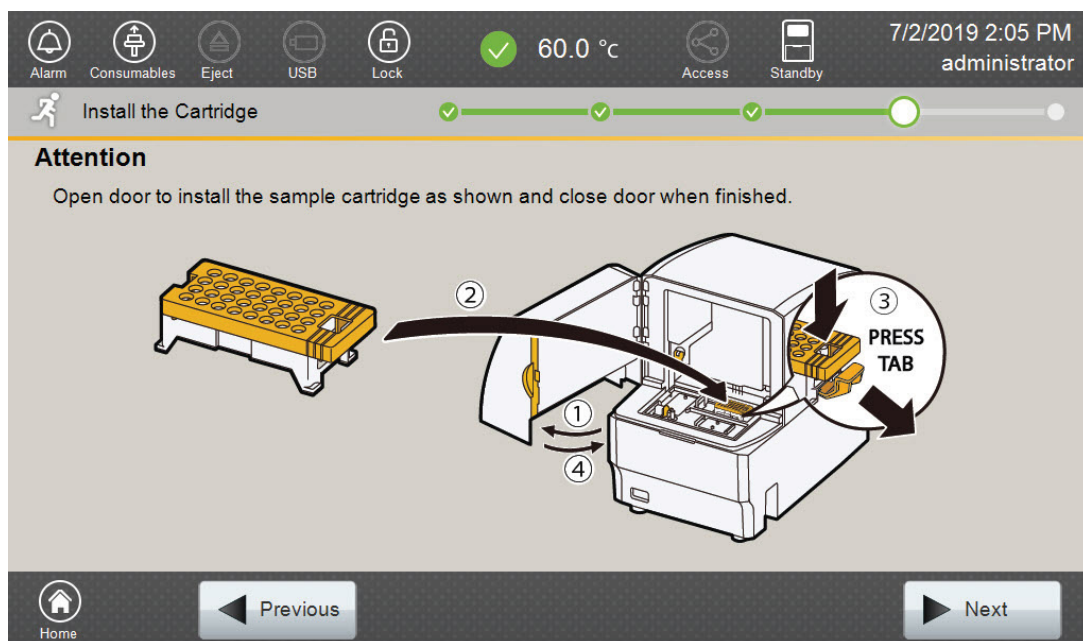

Figure 20. 'Install the Cartridge' screen.
2. Open the instrument door, then place the sample cartridge on the autosampler following the instructions displayed on the 'Install the Cartridge' screen (Figure 20). Press down on the yellow tab on the autosampler deck that locks the sample cartridge in place before placing sample cartridge into position. Release the tab to lock the sample cartridge in place on the autosampler deck.